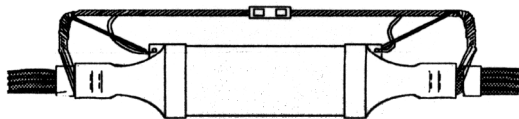

Figure 4
6. Slide splice body into final position over connector, using bumps formed on splice ends as guides for centering. Figure 4.